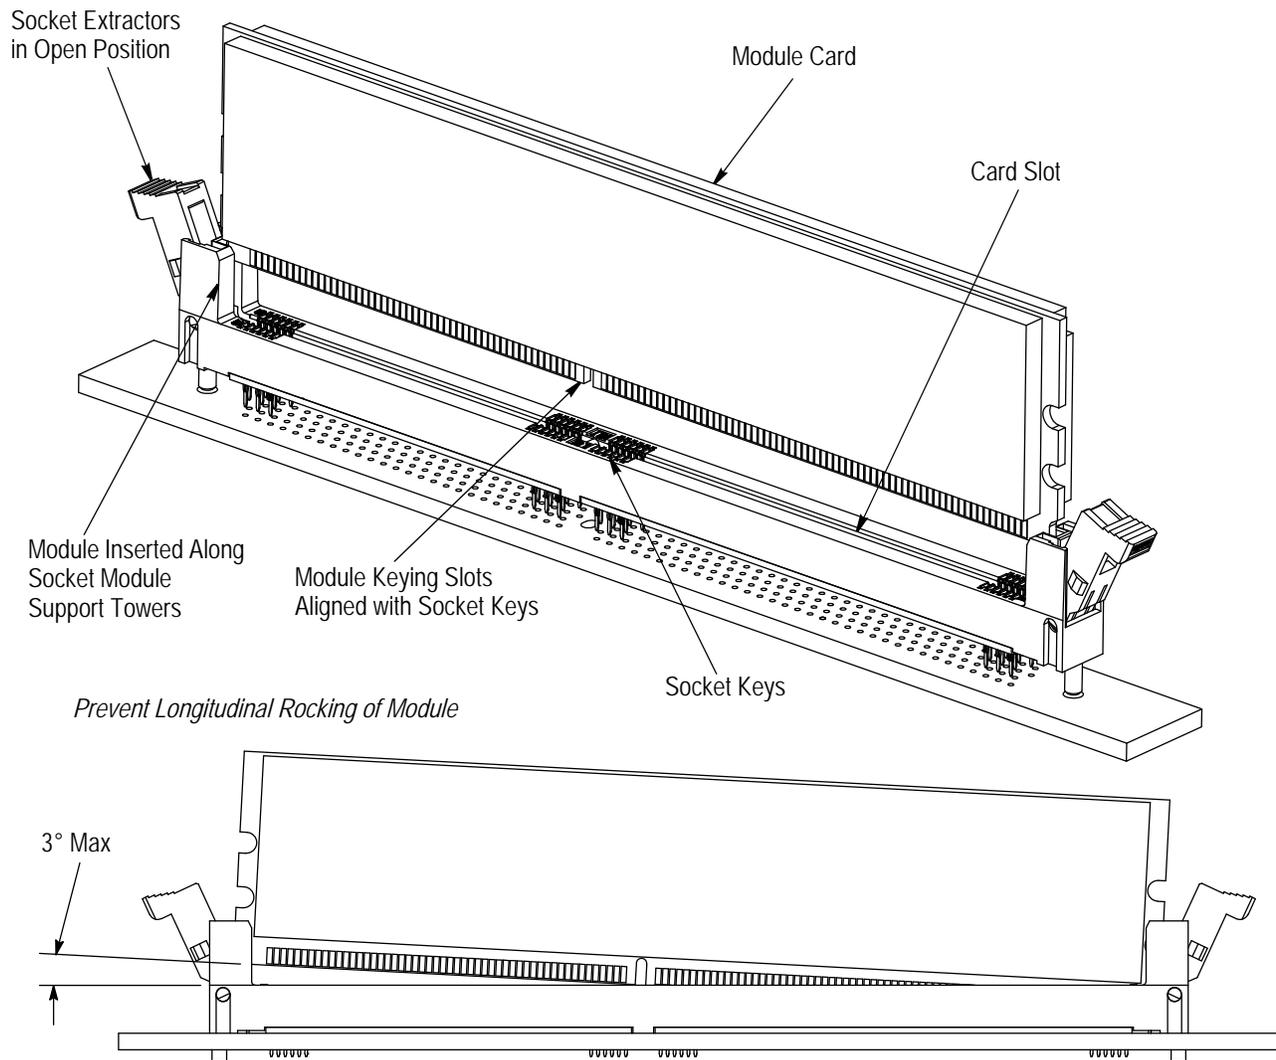

Figure 7
When mating or unmating module, care should be taken to prevent longitudinal rocking of the module with respect to the socket. Angles greater than 3° could cause damage to the housing or misregistration of the contacts and module circuit pads. Refer to Figure 7.
1. The socket extractors must be moved to the open position. See Figure 7.